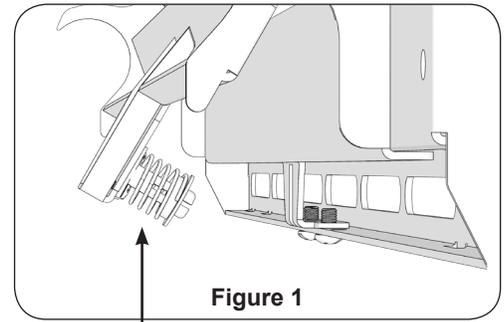

Figure 1
1. Push evenly in the front of the PFW6875 to release the single latch spring lock (Figure 1).